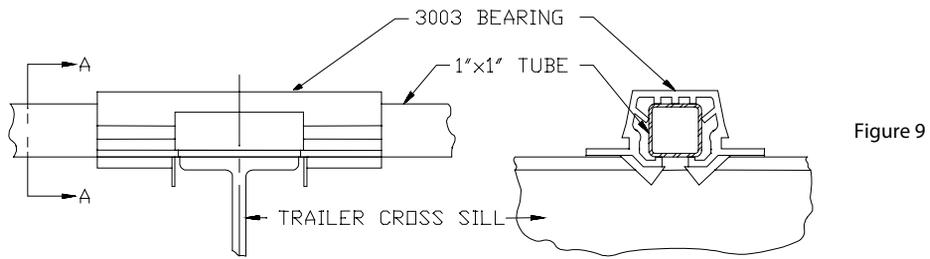
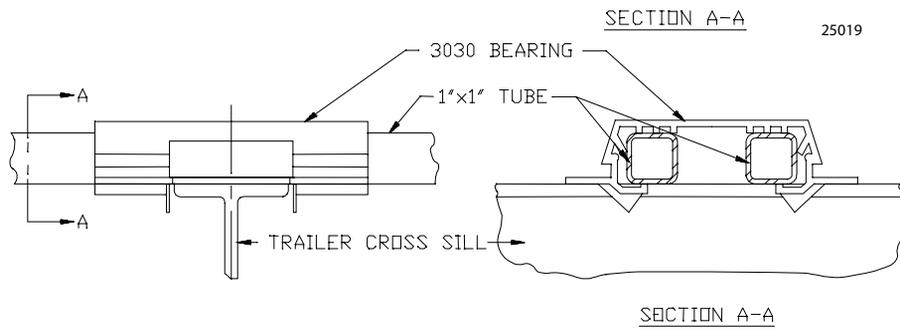

Figure 9
Figure 10
2. Check cross-member flange width for proper bearing fit (Figures 9 and 10). Please note that Figure 9 is for 3.65" slat centers and Figure 10 is for 6" slat/plank centers.